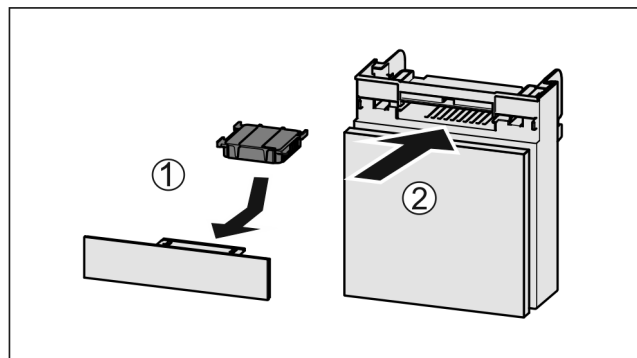

Fig. 237
- Insert the carbon filter as shown in the diagram Fig. 237 (1).
- Push the compartment in Fig. 237 (2).